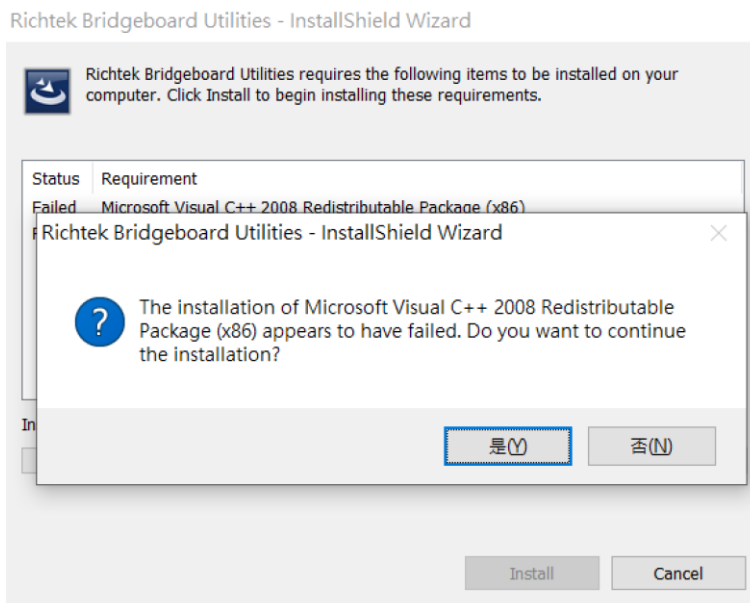

Figure 3. Driver Installation Step 3
Step 3: During the installation process, the window will appear, as shown in Figure 3. At this point, press the "YES" button to continue with the installation process.